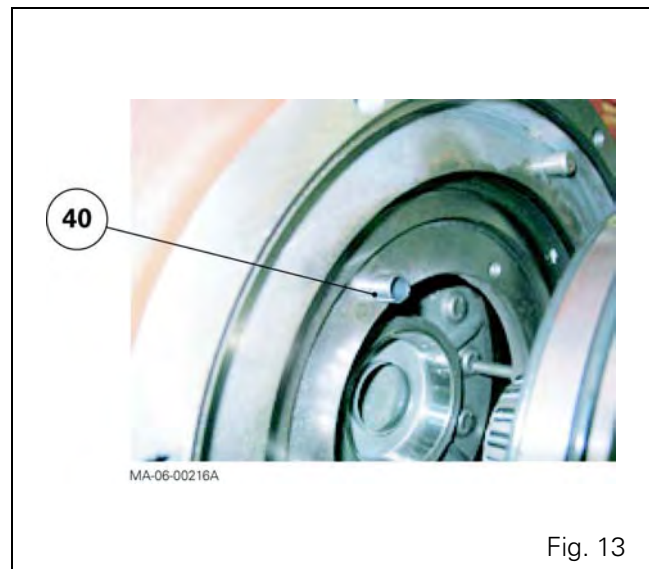

Fig. 13
44. Check that the locating pin (40) is present on the centre housing (Fig. 13).